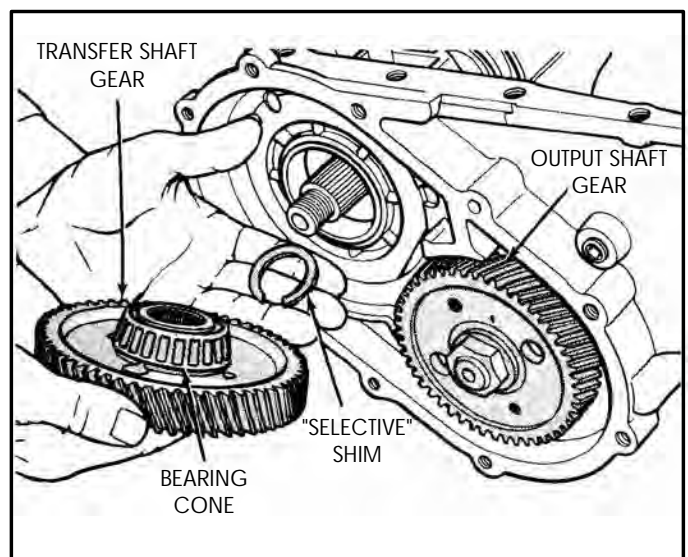

Figure 203
1. Install a 2.29mm (.090") and a 1.39mm (.055") gaging shims on the transfer shaft and slide them down behind governor support retainer (See Figure 203).